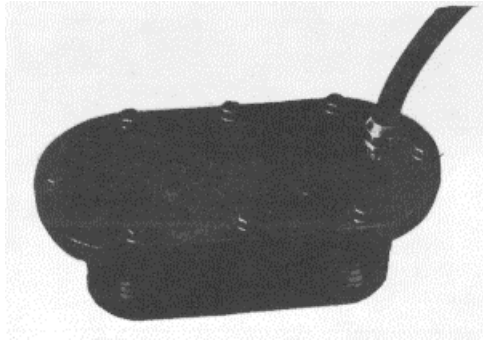

Fig. 4
- (1) Make a suitable plate and attach it to the flanged side of the oil cooler core. Use a gasket made from rubber to ensure a tight seal. Drill and tap the plate to permit an air hose fitting to be attached at the inlet side of the oil cooler core (Fig. 4).
- (2) Attach an air hose and apply approximately 75-150 psi (517-1,034 kPa) air pressure. Then submerge the oil cooler core and plate assembly in a tank of water heated to 180°F (82°C). Any leaks will be indicated by air bubbles in the water.